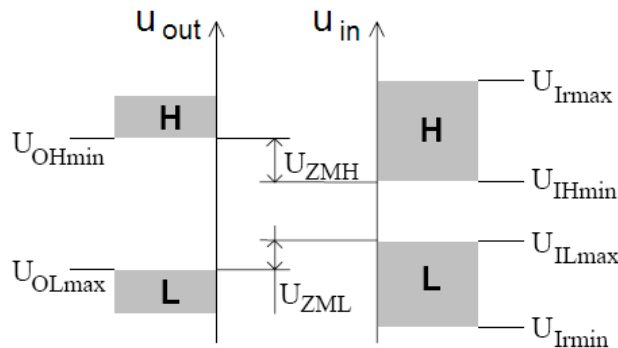

Figure 1. Logic levels
Binary values at the inputs and outputs of digital logic elements are represented with a voltage level, the so called logic level. The more positive level is called high level (H) while the more negative level is called low level (L). Due to the parameter deviations and additive noises from the environment logic levels are represented with a voltage range instead of a single voltage value. Voltage ranges at the input and output may differ slightly, though for a given digital logic family voltage ranges specified for the output should be within the range specified for the input to get correct operation. Device data sheets specify the minimum value of the H level and the maximum value of the L level, as Figure 1. shows.